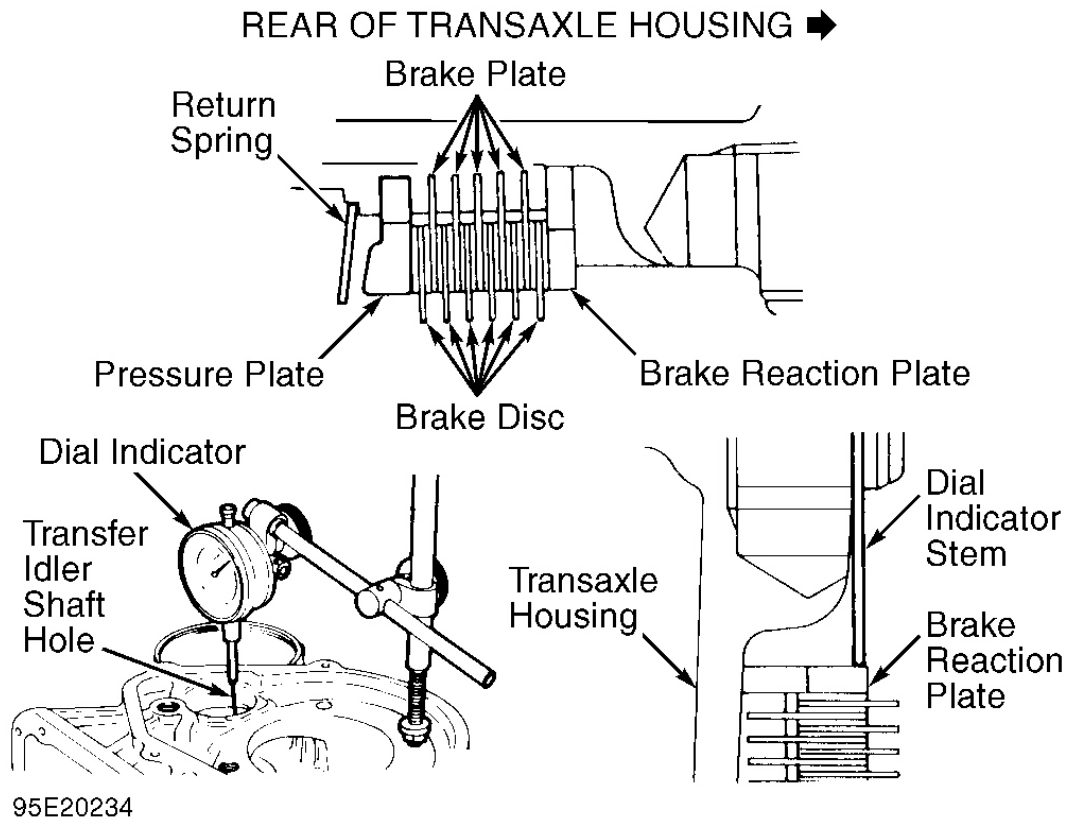

Fig. 35: Installing Low-Reverse Brake Components & Positioning Dial Indicator
1. Low-reverse brake clearance must be check first before assembly of transaxle. Install low-reverse brake clutch pack which consists of brake reaction plate, brake discs and brake plates in transaxle housing. See **Fig. 35** .
2. Install pressure plate and return spring on low-reverse brake clutch pack. Ensure return spring is installed facing correct direction. See **Fig. 35** .
5. Attach dial indicator on transaxle housing, so dial indicator stem contacts brake reaction plate at right angle from transfer idler shaft hole. See **Fig. 35** . Zero dial indicator.
31. Install sun gear assembly in planetary carrier assembly. See **Fig. 18** . Install low-reverse brake clutch pack which consists of brake reaction plate, brake discs and brake plates in transaxle housing. See **Fig. 35** .
32. Install pressure plate and return spring on low-reverse brake clutch pack. Ensure return spring is installed facing correct direction. See **Fig. 35** .